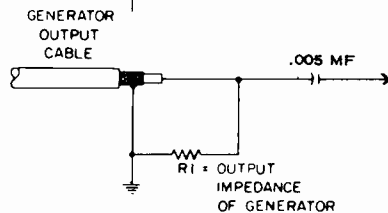

Figure 7 - Generator Cable Termination
Generators - Except where otherwise noted, all signal generating equipment should be terminated as shown in Figure 7. Connect the signal cable ground near the ground of the stage where the signal is injected. Adjust the CW generator output so that: (1) When the VTVM is being used its reading remains near the -1 volt point. (2) When the oscilloscope is being used the marker frequencies do not distort the response curve.